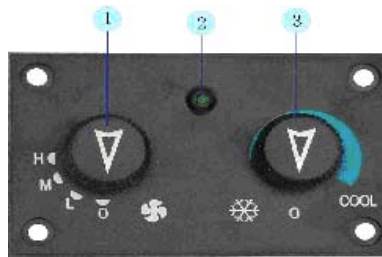

Figure 3
(1) Introduction of panel (Refer to Figure 3)